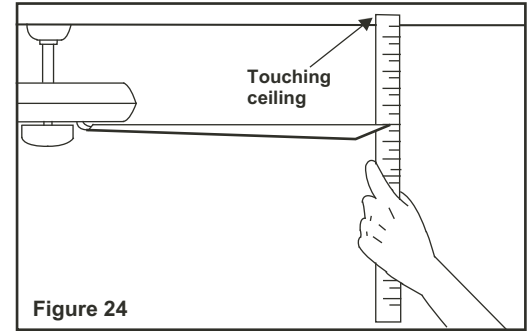

Figure 24
2. Most fan wobbling problems are caused when blade levels are unequal. Check this level by selecting a point on the ceiling above the tip of one of the blades. Measure this distance as shown in Fig. 24. Rotate the fan until the next blade is positioned for measurement. Repeat for each blade. The distance deviation should be equal within 1/8".